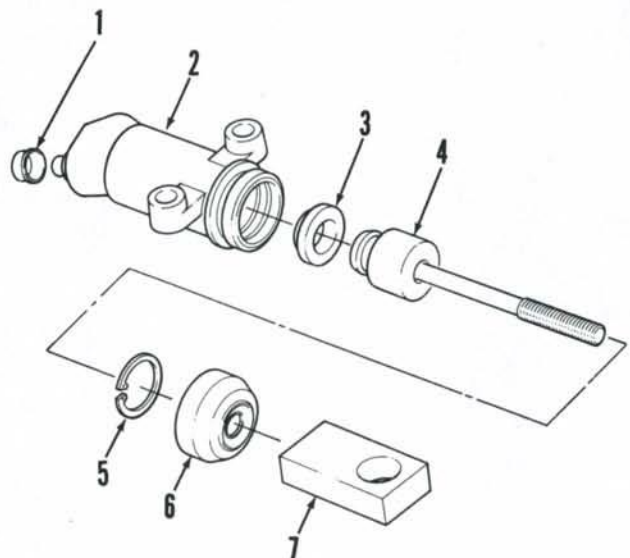

Fig. 83—Exploded view of clutch slave cylinder used on models equipped with cab.
To disassemble the slave cylinder, remove eye clevis (7—Fig. 83). Remove rubber boot (6) and snap ring (5), then withdraw piston (4) with seal (3). Remove seal from piston. Clean and inspect piston and cylinder housing (2) for scoring or other damage. If scored or damaged, renew cylinder assembly. A service kit consisting of bleed screw rubber cap (1), seal (3), snap ring (5) and rubber boot (6) is available. Reassemble and reinstall by reversing the disassembly and removal procedures. When installing eye clevis (7) on piston (4), apply Loctite 270 to first three threads of piston rod. Adjust eye clevis so that a distance of 3.4 inches (86.0 mm) is obtained between centers of cylinder mounting holes and eye clevis hole (with piston fully inward). Bleed air from system as outlined in paragraph 100.
100. BLEED CLUTCH SYSTEM. To bleed air from system, remove bleed screw cap (1—Fig. 83) and connect a length of transparent hose with its free end in Hy-Tran Plus fluid. Loosen bleed screw. Fill reservoir